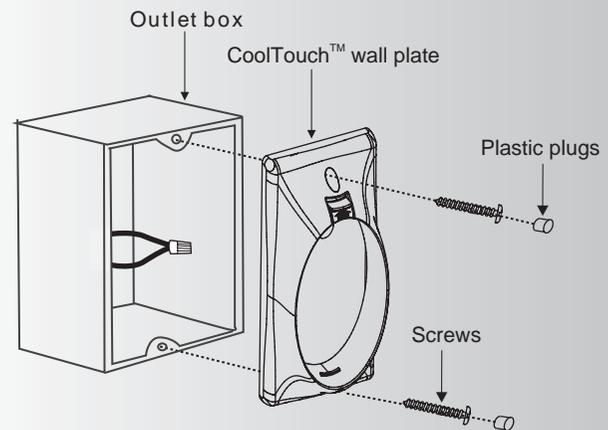

Fig. 26
Step 2. Install the CoolTouch™ wall plate to the existing wall outlet box with 2 screws provided. Then place the two plastic plugs into the wall plate. (Fig. 26)